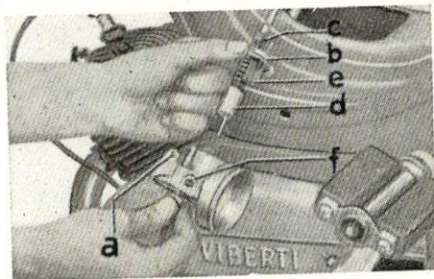

Fig. 17
- 1) In order to clean the carburator thoroughly, remove cover b, fig. 17, after loosening screws c, fig. 17. The gas throttle d, fig. 17 as well as throttle e, fig. 17 are to be taken out but still remain attached to the steel cable.
- 2) Remove the idling adjusting screw f, fig. 17.